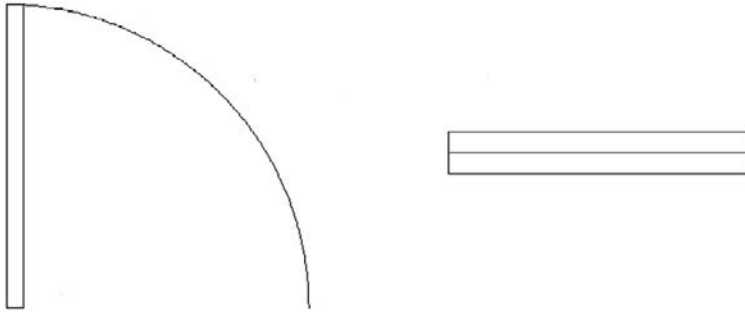

FIGURE 3.15
- To create windows, draw a rectangle with a line through it. Position into the window opening. Both a door and a window are shown in Figure 3.15.